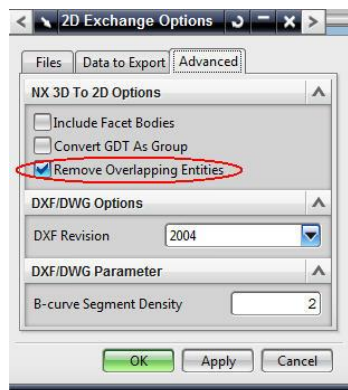

Figure 10
- e. **Select** the **Advanced** tab. Make sure **Remove Overlapping Entities** is checked (shown Figure 10).